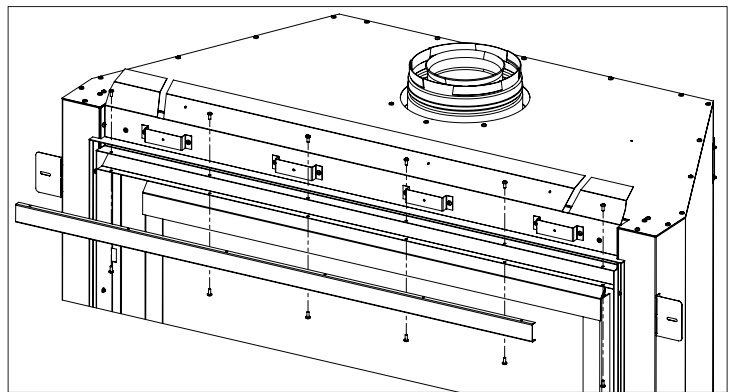

Figure 38: Front Cover Removal
- Step 2.** Remove CSS front cover using a T-20 screwdriver (see Figure 38).